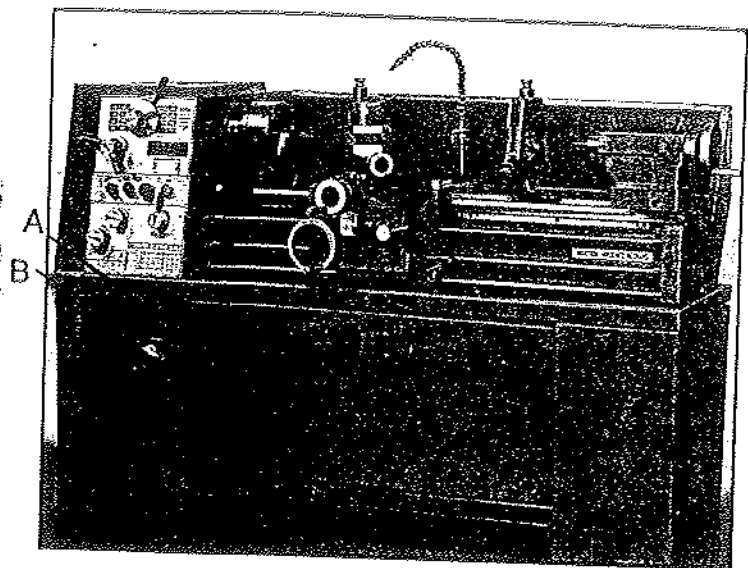

Fig. 14
21. **Foot Brake** (A, Fig. 14) - located between stand pedestals. Depress to stop all lathe functions.
23. **Two Speed Motor Switch** (B, Fig. 14) located on front of the left base pedestal. Position one is for high speed. Position two is for low speed. Position zero is neutral and the spindle will not turn. **Note:** Check this switch and make sure position one or two is selected if the lathe will not run.